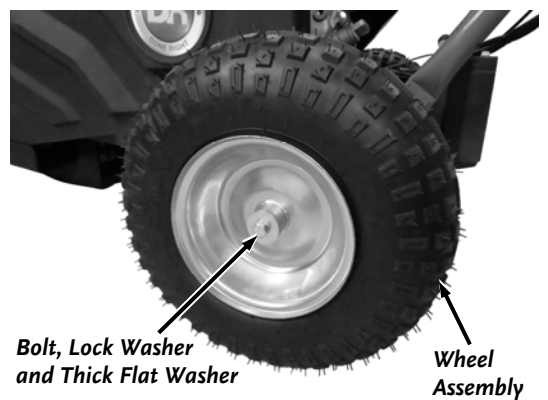

Figure 12
12. Loosen the Bolt of the left side Wheel using a 1/2" Wrench (**Figure 12**).